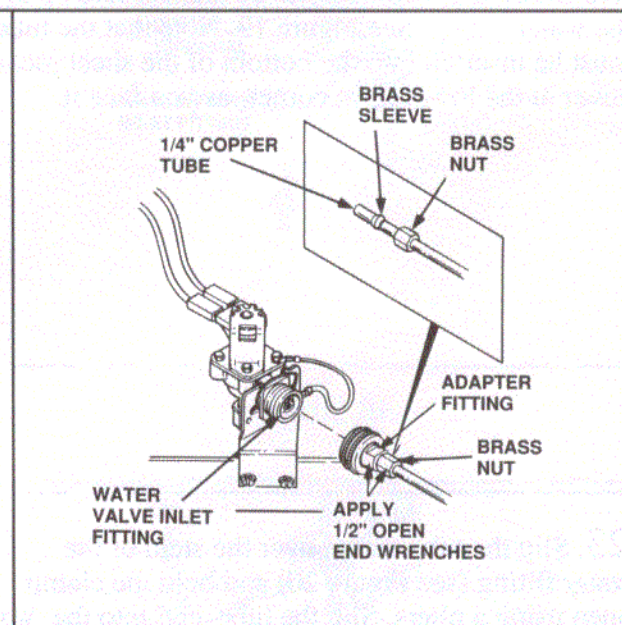
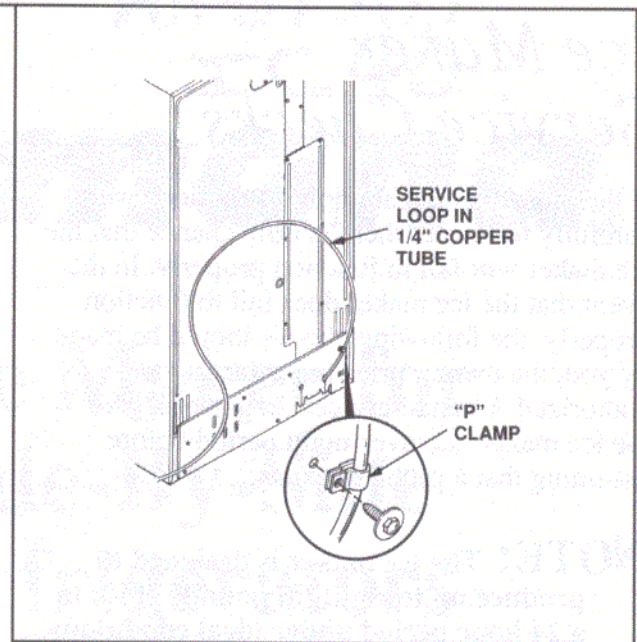

Figure 22
Figure 23
25. Slip the brass nut and the brass sleeve over the end of the 1/4 inch copper tube. Connect the tube to the adapter fitting using two 1/2 inch open end wrenches. See Figure 22. *Make sure you start the brass nut by hand to avoid cross threading.* Using extreme care to avoid kinks, put a service loop in the copper tube as shown in Figure 23. **NOTE: Pull on the copper tubing to see if the tubing is secured to the coupling.**
29. When you are confident that no leaks exist or after correcting any apparent leaks, install the lower rear cover on the refrigerator. Clamp the copper tube to the back of the unit using the "P" clamp provided in the kit and the upper right attaching screw of the lower rear cover. Using extreme care to avoid kinks, put a service loop in the copper tube as shown in Figure 23.